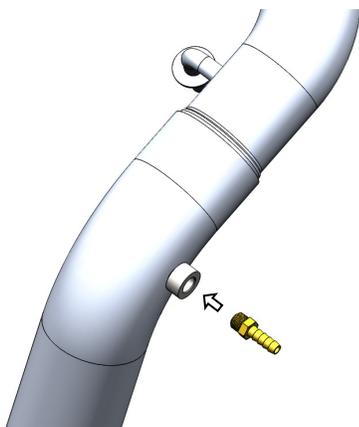

Figure 6
8. Wrap the threads of the **1/8" NPTF HOSE ADAPTOR** with Teflon tape and install it into the threaded bung on the **RHS Intercooler Pipe**. Refer to **Figure 6**